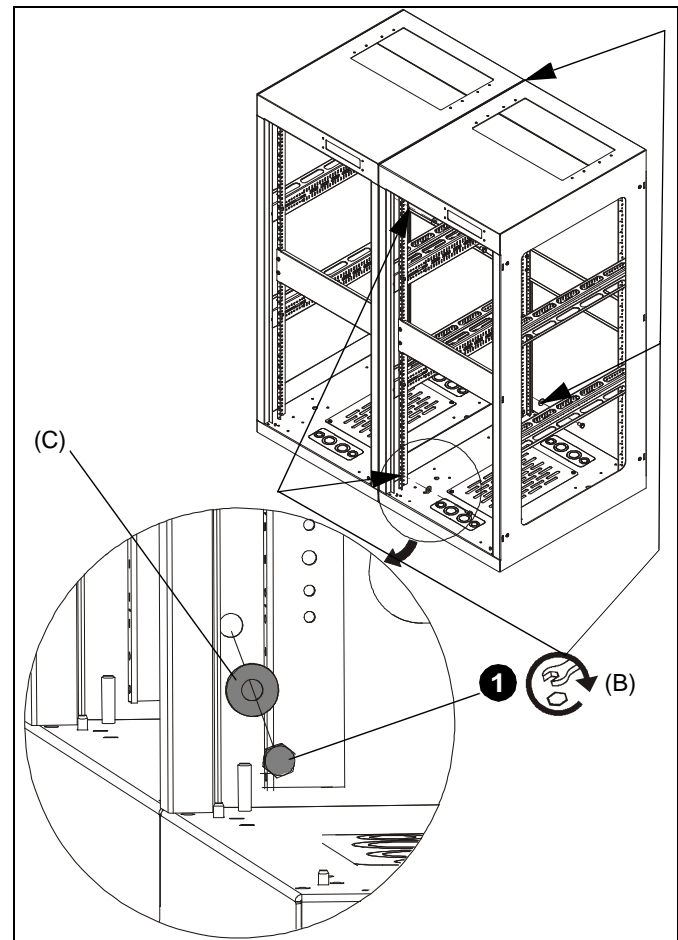

Figure 3
2. Fasten racks together using 3/8-16 x 5/8" hex head cap screws (B) and 3/8" flat washers (C) through holes and weldnuts in rack side. (See Figure 3)